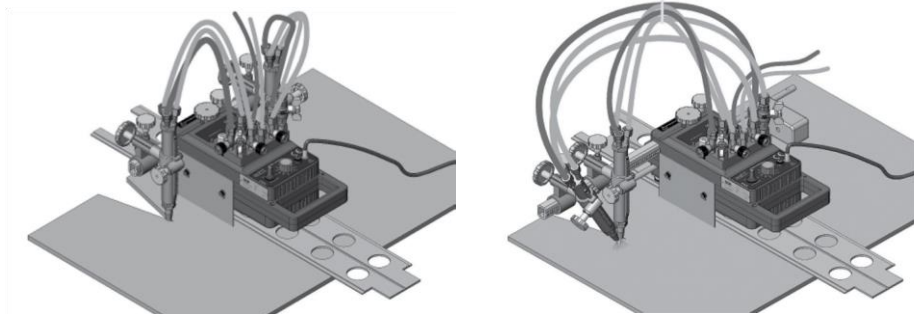

Fig.12: Cortes oblicuos y cortes de tiras con dos sopletes
3. Install second heat shield (6) at the second side of the machine, opposite to existing heat shield using distance washer (7), imbus screw M6x20, washer and spring washer (8, 9, 10).
4. Mount gas manifold for two torches (1) on the machine body.
8. Use proper cutting nozzles according to point 2.5 above. gcE proFit® machine with two torches can be used for bevel cutting and for strip cutting as shown at the Figure 12.